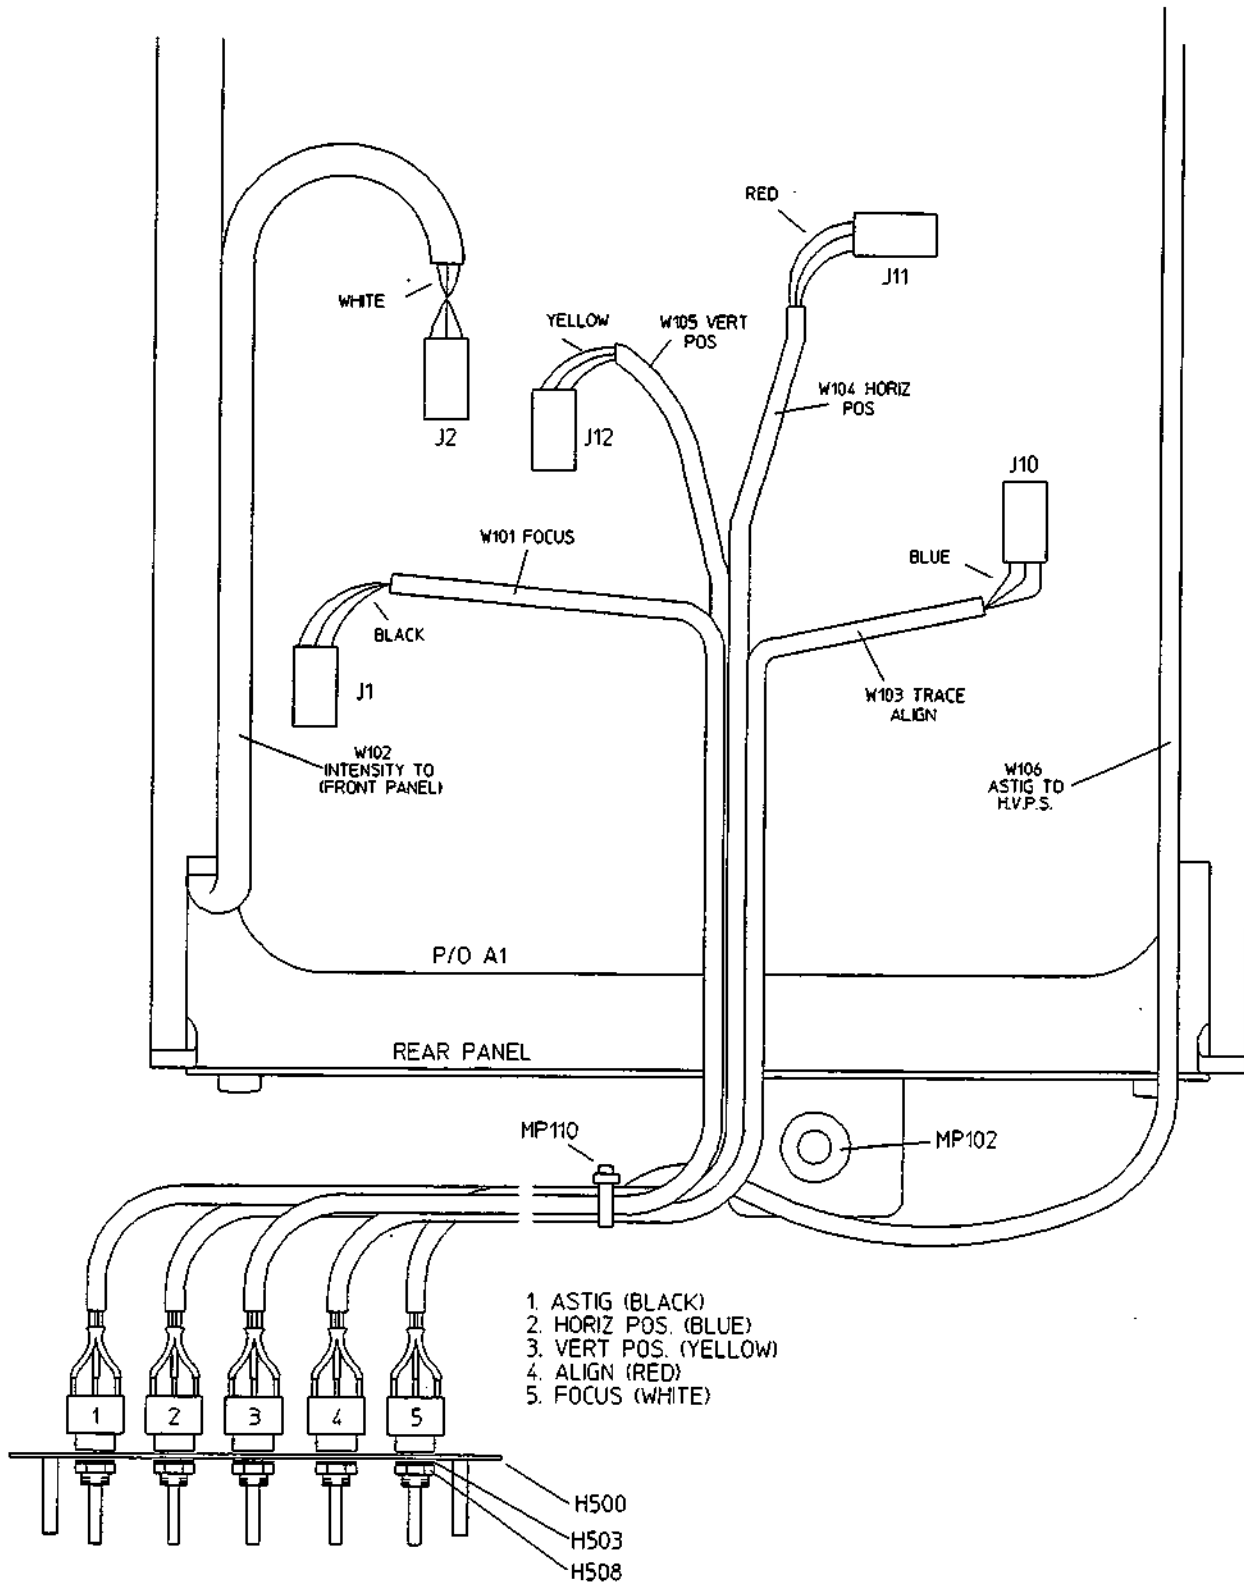

Figure 5-8. External Control Connections
3. Refer to figure 5-8 and center the five external adjustments: